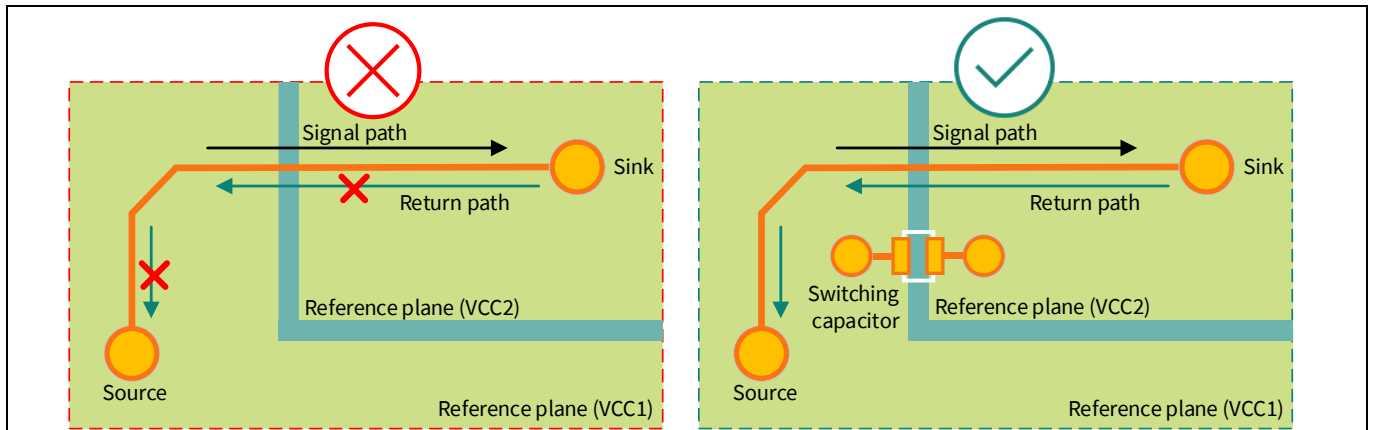

Figure 14 Use stitching capacitors when routing over a plane obstruction in high-speed PCBs
- If routing over a plane-split is unavoidable, place stitching capacitors (10 nF to 100 nF) across the split and place them as close as possible to the plane crossing, as in Figure 14